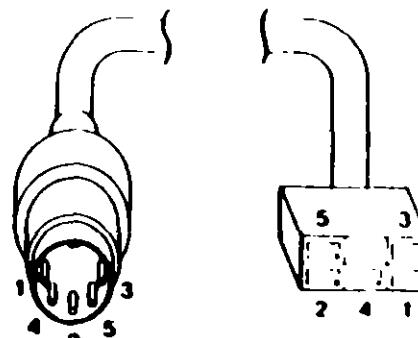

Figure 2. Continuity Check
- Refer to Figure 2 on page 0100-3, and check the keyboard cable for continuity.